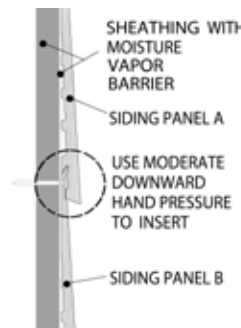

Fig. 9
- Use moderate downward hand pressure inserting the groove of Siding onto the tongue of starter strip as well as the previously fastened course. Do not use excessive force (e.g. hammers, tapping blocks, etc., see Fig. 9).